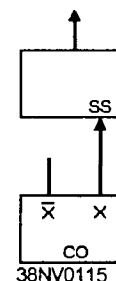

Figure 4-40.—Example of a single-phase clock system.
**SINGLE-PHASE CLOCK SYSTEMS.**— A single-phase clock system consists of a free running multivibrator and a single-shot multivibrator. A free running multivibrator provides the pulse and the single-shot multivibrator shapes the pulse. An oscillator could also be used to provide the trigger pulse for a single-shot multivibrator. The pulse is the output of the pulse shaper, which is then used to enable and disable circuits in whatever sequence is necessary to properly execute the computer program. Refer to figure 4-40 for a simple diagram (block and timing) of a single-phase clock system.